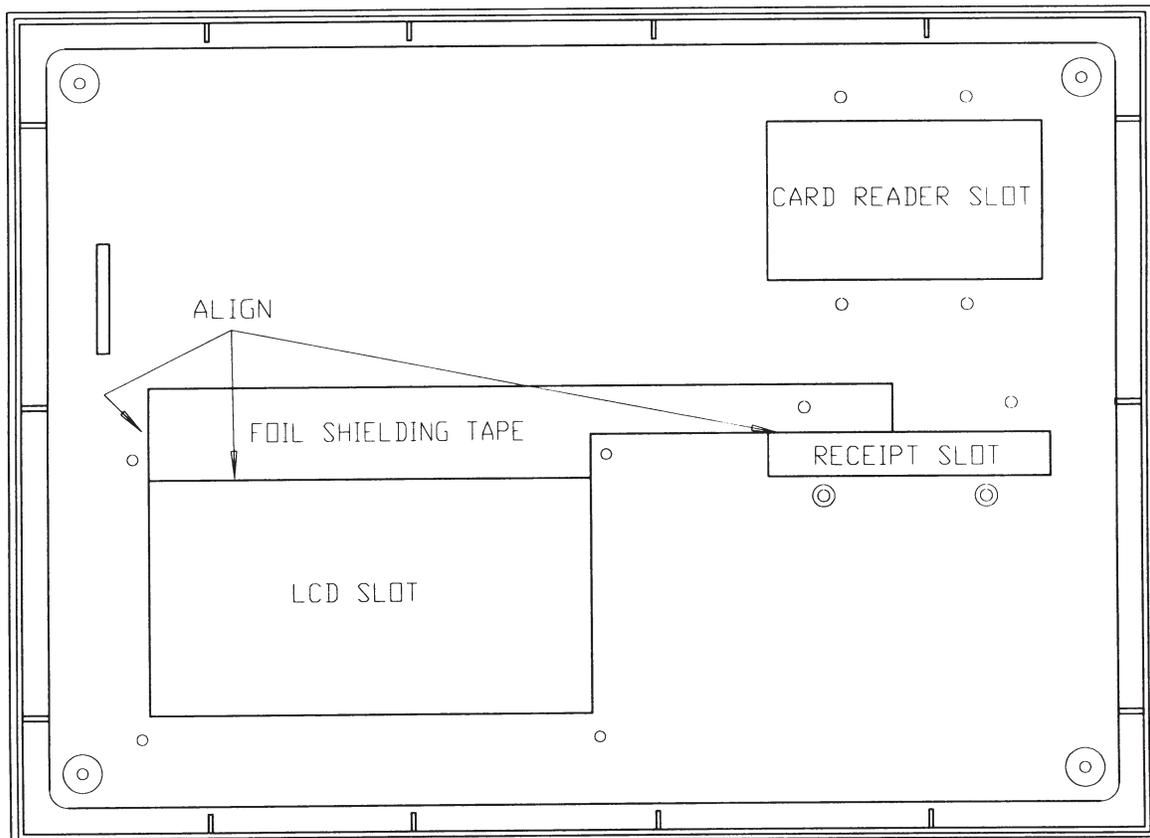

FIGURE 1. SHIELDING TAPE LAYOUT
5. Remove the display from the front panel by removing the four mounting nuts with a 1/4" nutdriver. **Be careful when removing. There are small nylon spacers which can be easily lost.** Remove the receipt printer chute from the front panel. Place the foil shielding tape provided with the kit onto the front panel as shown in figure 1. Replace the display and the receipt printer chute back onto the front panel.